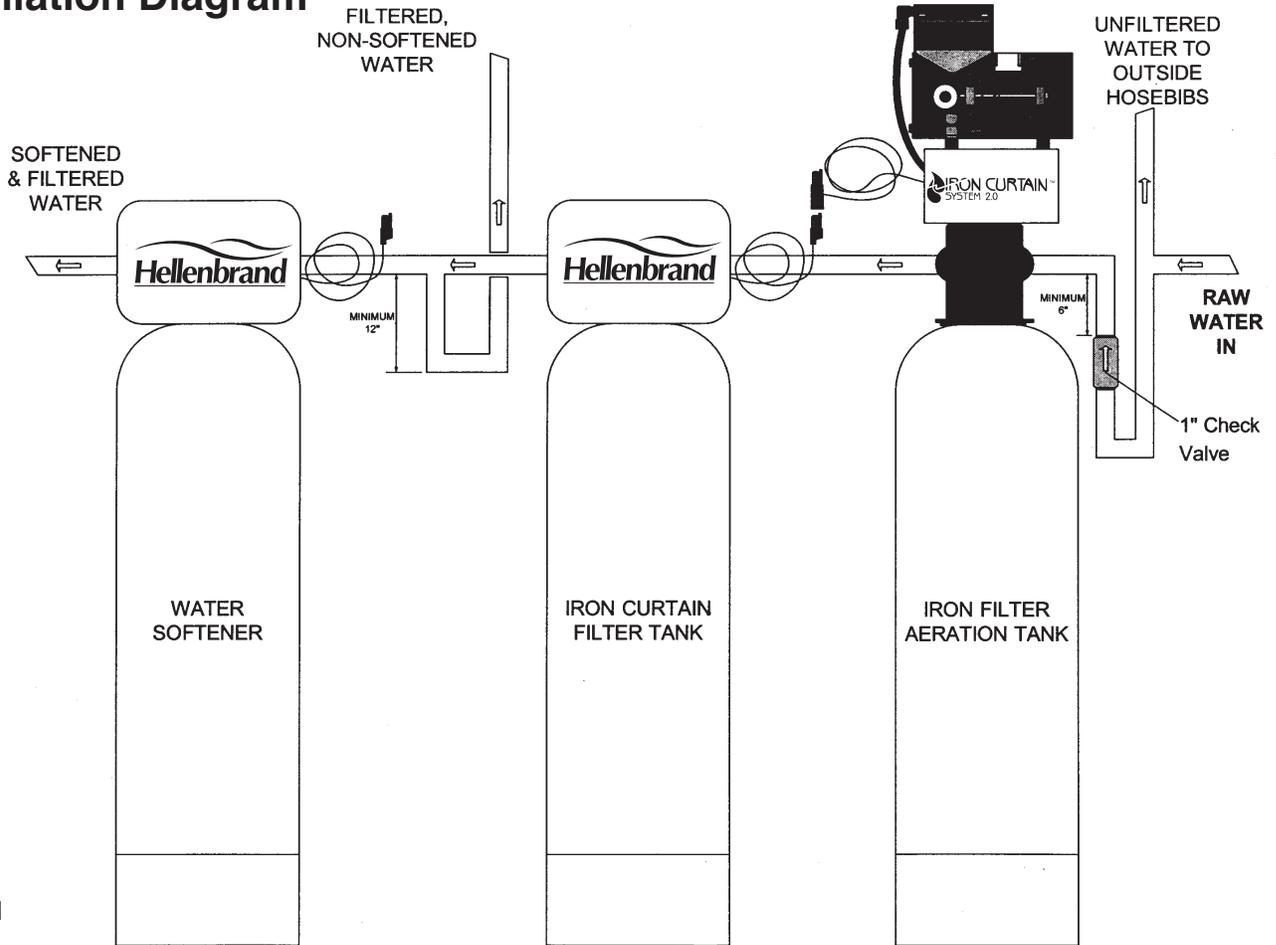

Figure 1
**Equipment Location:** See Figure 1, on page 7.
**Location of Aeration and Filter Tank:** See Figures 1 on page 7. These two tanks should be installed after the pressure tank and as close to each other as practical. If you want to filter outside hosebibs, be sure the filter system is properly sized to handle the flow rates required for extended periods of time, in addition to the normal household demand.
**Check Valve:** On applications where there is a non-filtered demand for water such as joint wells (where the filter system is only installed in one of two or more homes), outside hosebibs, farms with outbuildings, yard hydrants, etc. a spring loaded check valve is provided and must be installed ahead of the aeration tank. See Figures 1, on page 7. Install the check valve in a vertical upflow position with a minimum 6" water column above the check valve. This prevents air from escaping past the check valve. If the check valve is installed in a horizontal position, and there is a simultaneous demand for both non-filtered and filtered water, the air head in the aeration tank may escape backwards past the check valve into the non-filtered water line.
2. The one-inch (1") check valve that is supplied must be installed in the upflow position on the raw water supply feeding the aeration tank. (See figure 1 page 7 for proper check valve installation procedures)
3. When installing an Iron Curtain Filter system it is common to provide filtered water to some fixtures such as the kitchen cold faucet. This is typically done as a matter of personal preference. In rare occasions it has been noted that the customer may experience some air in the filtered water line on the morning after regeneration. It has proven to be beneficial to plumb the line for the filtered only water fixture in a downward direction from the inlet of the softener (12 inches recommended), then make a reverse turn and go upward toward the fixture. Understanding that air always rises to the highest point in a water system, and it cannot naturally flow downward. (Figure 1, page 7)